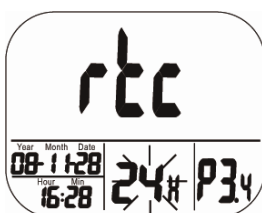

Fig. 15: 12 hour or 24 hour display
- In P3.4 mode the current time setting (12 hour or 24 hour) will blink (Fig. 15). To change the setting press LOG/▲ or MIN/MAX▼.